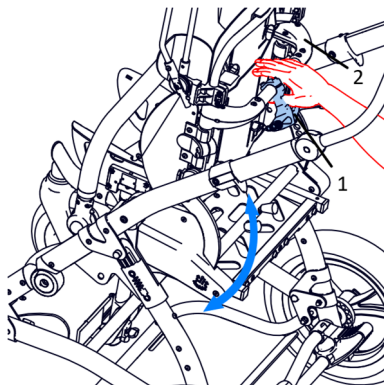

Fig. 19
Fig. 19. The angle adjustment is released by pulling the lever (1) located on the seat backrest handle (2). When adjusting the angle, always hold the seat backrest by the handle. The position is locked after releasing the lever (1).